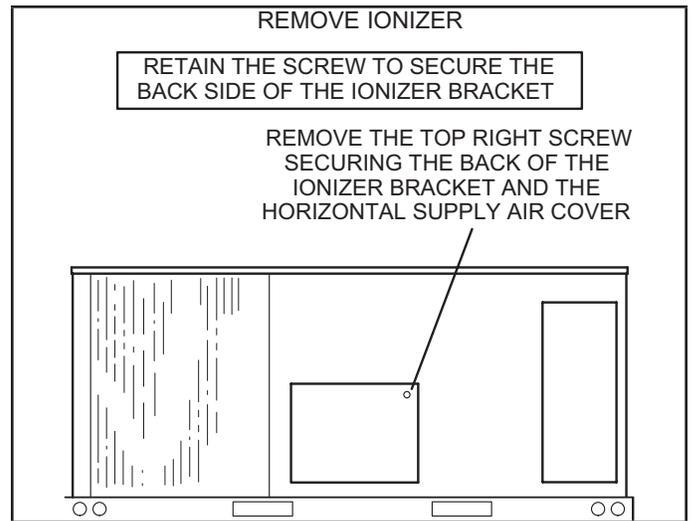

FIGURE 34
- 1 - On the back side of the unit, remove the screw securing the back of the ionizer bracket. See FIGURE 34. Retain the screw to secure the back side of the ionizer bracket.